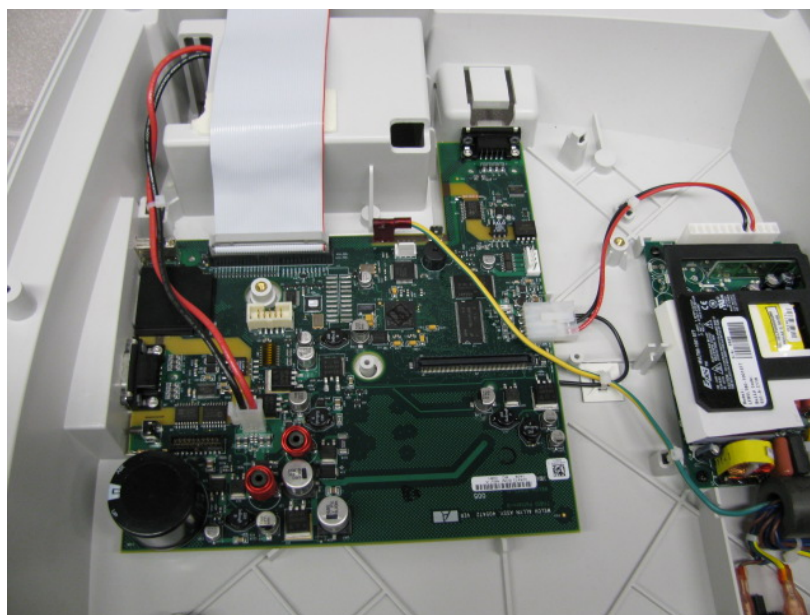

Figure 9
9. The completed base assembly should resemble the picture below (Figure 9).